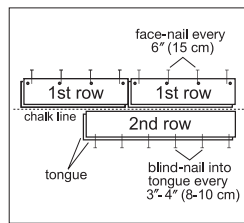

Figure 7
- Use the longest, straightest boards available for the first two rows. For random and alternate width products, use the widest plank for the first row. Align tongue of first row on chalk line. The groove should be facing the starting wall. Pre-drill 1/2" (13 mm) from back (groove) edge, 1"–2" (2.5–5 cm) from each end, and at 6" (15 cm) intervals when possible (Figure 7). Fasten using 4d or 6d finishing nails or 1" (2.5 cm) pneumatic finish nails/brads. Countersink the nails.